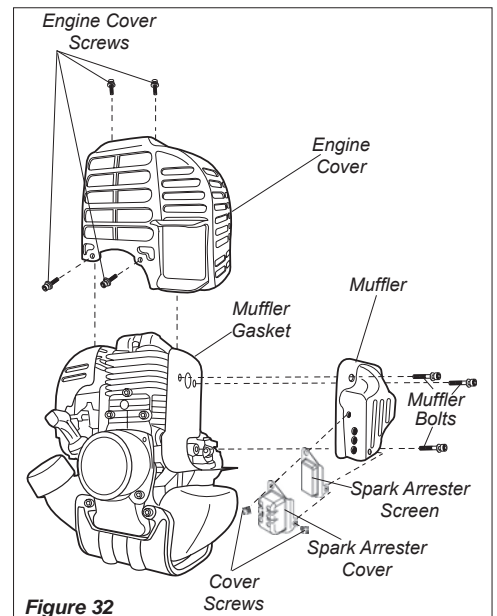

Figure 32
1. With a 3 mm hex wrench remove the 4 engine cover screws and the engine cover. See Figure 32.
2. With a 4 mm hex wrench remove the 3 muffler bolts and the muffler. See Figure 32.
3. With a small flat bladed screwdriver remove the 2 screws holding the spark arrester screen and cover to the muffler. See Figure 32.